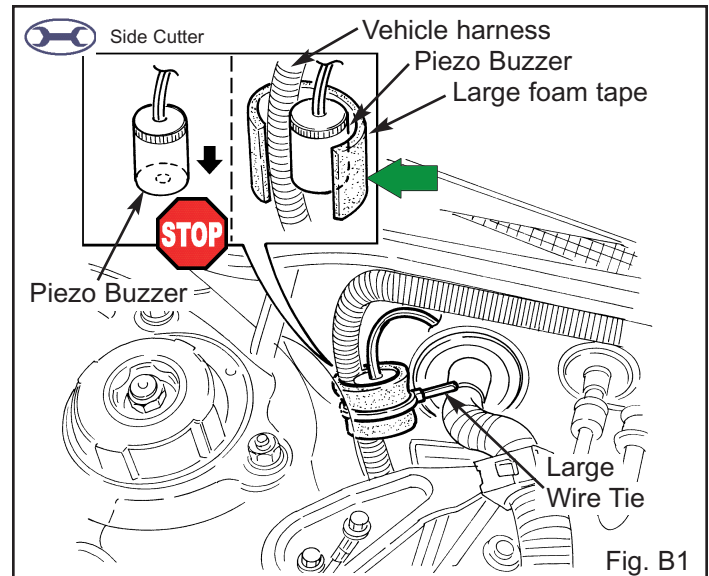

Fig. B1
- ➔ 1. Wrap the Piezo Buzzer to the vehicle's harness with one large strip of foam tape. (Fig. B1)
2. Secure the Piezo Buzzer to the vehicle's harness with one large wire tie. (Fig. B1)